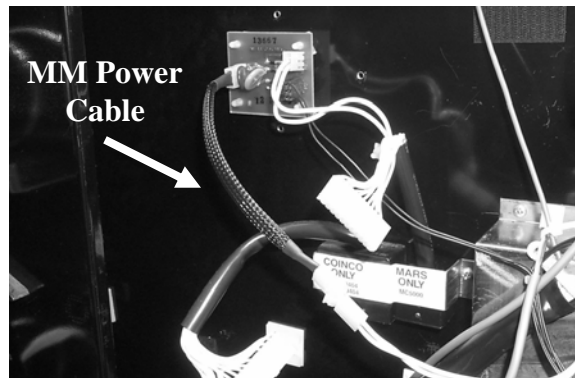

Figure 8
- Referring to figure 8, remove the cover of the High Voltage PCB. Next, locate cable originally connected to P1 (extending from the Jones plug). This is a 3 pin connector with pin 2 keyed. Connect 11-0188-21 to this cable with the male pins and the other end into P1 of the small PCB. You can now replace the cover to this PCB.